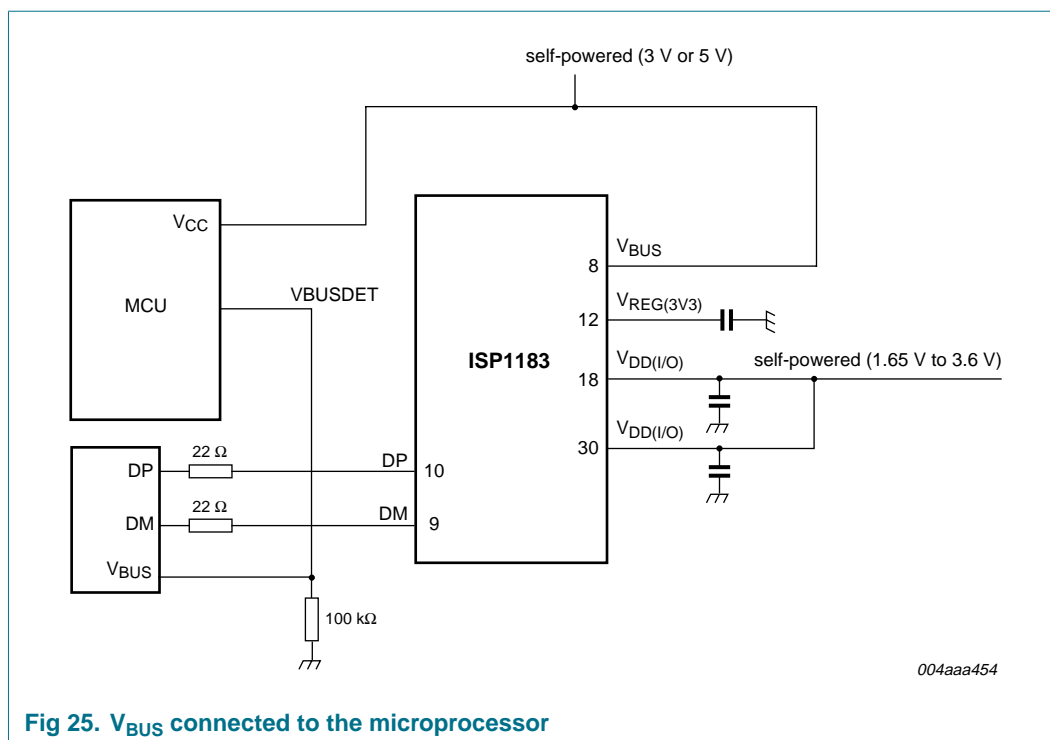

Fig 25. V_{BUS} connected to the microprocessor
- Connecting V_{BUS} to the microprocessor; see Figure 25.